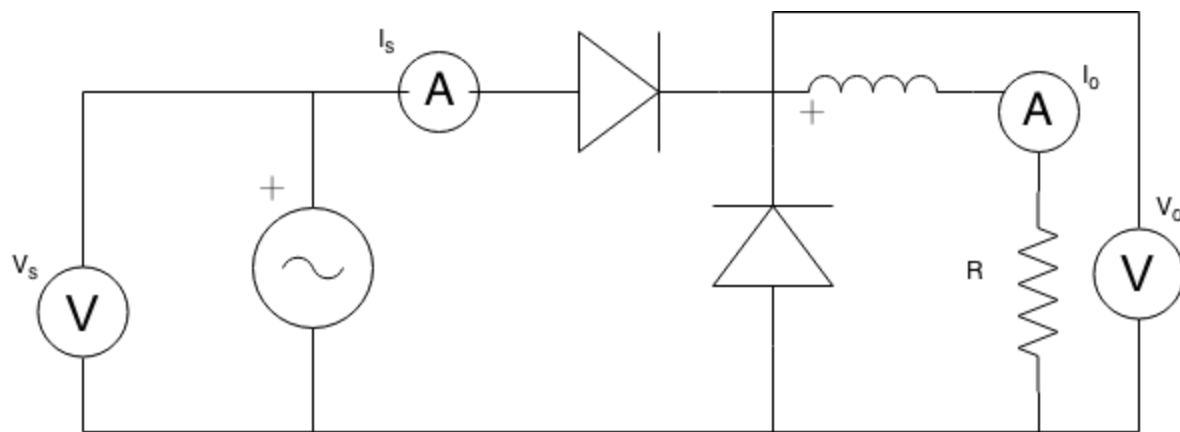

Figure 3
1. A circuit was built using an $R=15\Omega$ resistor (See Figure 3).